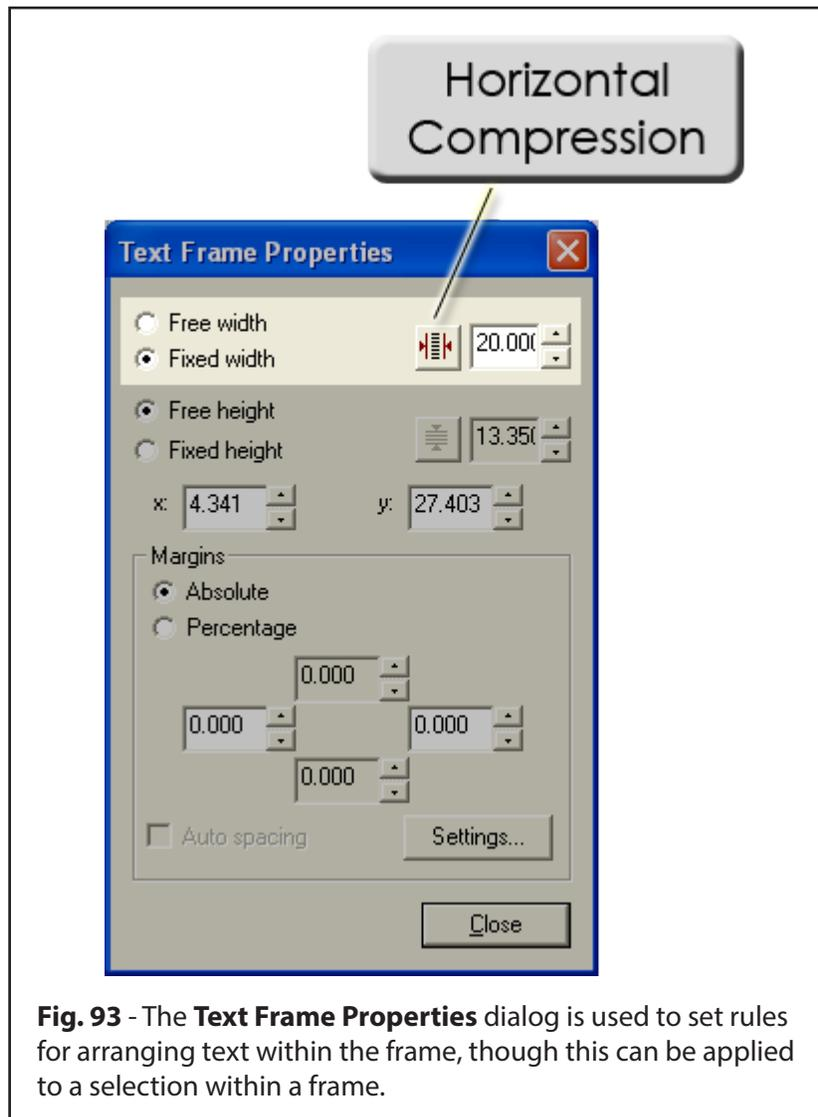

Fig. 93 - The **Text Frame Properties** dialog is used to set rules for arranging text within the frame, though this can be applied to a selection within a frame.
7. In the **Text Frame Properties** dialog, click the **Fixed Width** option, and set the **Width** field to 20 (Fig. 93).